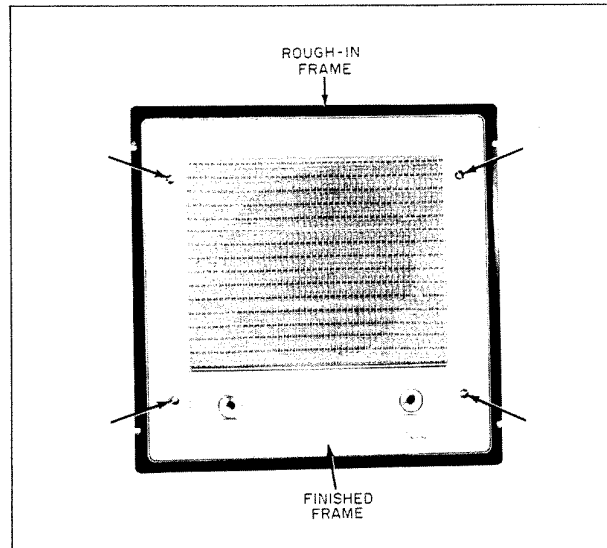

Fig. 14. Finished frame assembly of outside-installed Model 200 remote speaker station.
4. Align holes in the finished frame with the holes in the rough-in frame. Fasten frame in place with four mounting screws previously removed under Step 1 above and shown by arrows in Fig. 14.